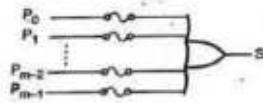

Fig. 7.12.8 Equivalent representation of OR gate
- Fig. 7.12.8 shows the simplified and equivalent representation of input connections for one OR gate.